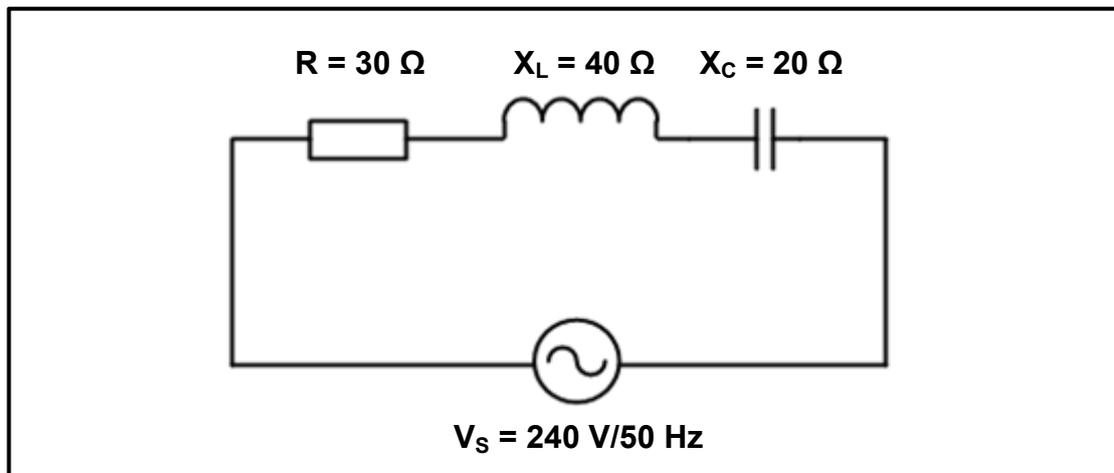

FIGURE 5.2: RLC SERIES CIRCUIT
- 5.4 The series circuit in FIGURE 5.2 consists of a capacitor with a capacitive reactance of 20Ω , an inductor with an inductive reactance of 40Ω and a resistor with a resistance of 30Ω connected across a $240 \text{ V}/50 \text{ Hz}$ supply.